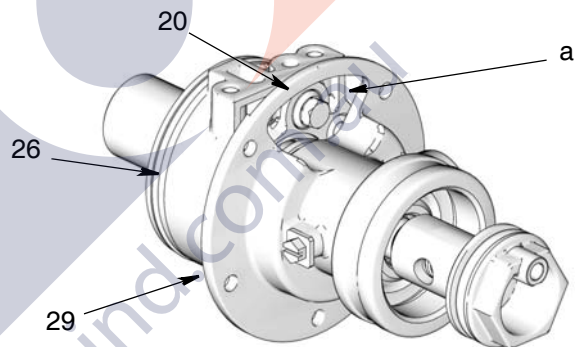

Fig. 10
- Install bottom cover (26) over displacement rod (30). Align pilot valve (20) installed in bottom cover with opening (a) in flange (29) as shown in Fig. 10. Compress the bottom cover (26) and flange (29) together.